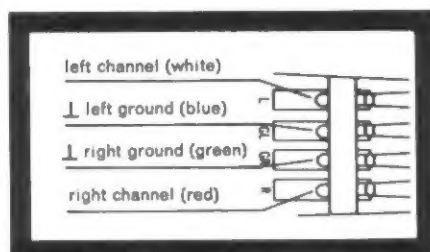

Fig. 16
3. Connect each lead on the cartridge holder to its corresponding pin on the cartridge. Each lead is color-coded as shown in fig. 16.